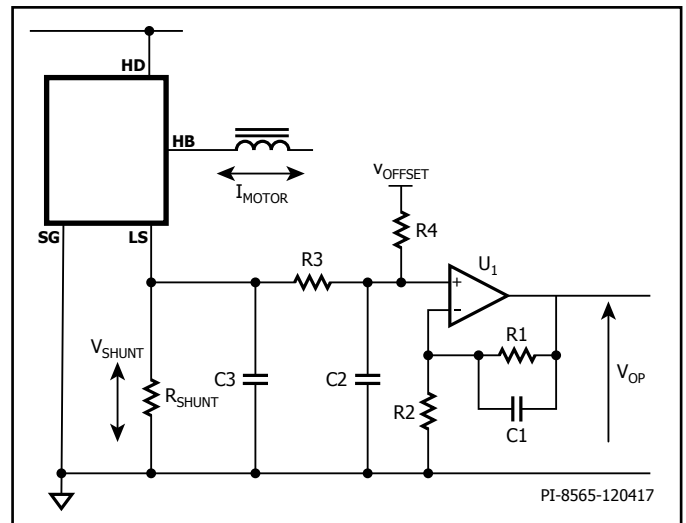

Figure 14. External Current Sense Example Circuit (BRD116X).
BRD116X devices support discrete low-side FREDFET current sensing through an external current sense resistor in series with the LS pin. Figure 14 depicts one possible implementation example.
BridgeSwitch features system level monitoring through the SYSTEM MONITOR input. The SM pin supports monitoring either the high-voltage (HV) DC bus (see Figure 14) or the temperature of an external component through an NTC thermistor (see Figure 16). The SM pin is self-configuring. It automatically detects the type of external connection and locks in the respective circuitry configuration at power-up.